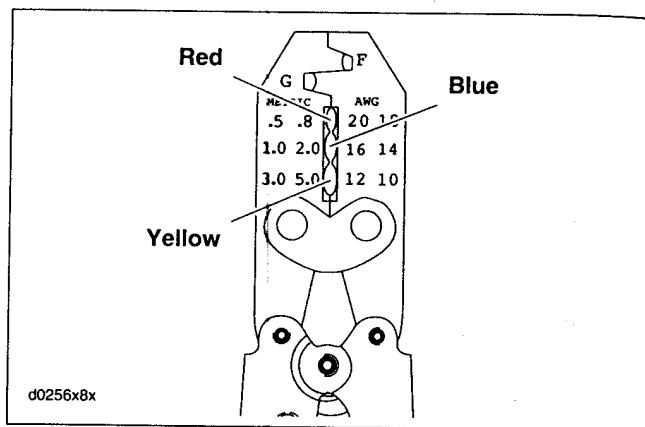

Figure B-18. Packard Crimp Tool (Part No. HD-38125-8)
4. See Figure B-18. Determine the correct dye or nest for the crimping operation. Match the color or gauge wire marked on the butt splice connector with the corresponding crimp cavity on the crimp tool.